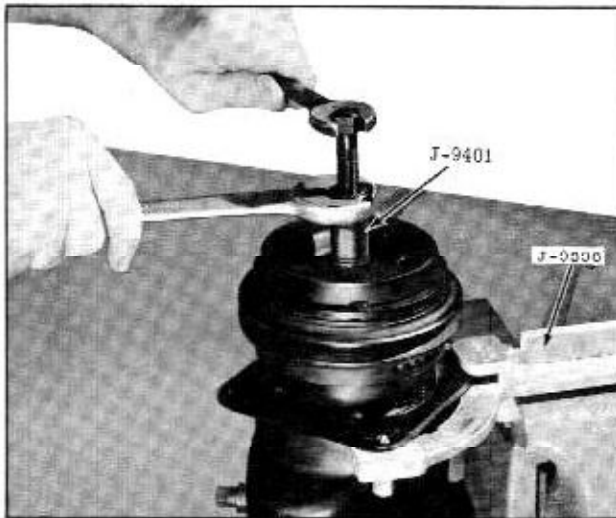

Fig. 14-19 Removing Driven Plate
2. Install Puller J-9401 into hub of driven plate. Hold main body of tool and turn forcing screw clockwise to remove driven plate. (Fig. 14-19)